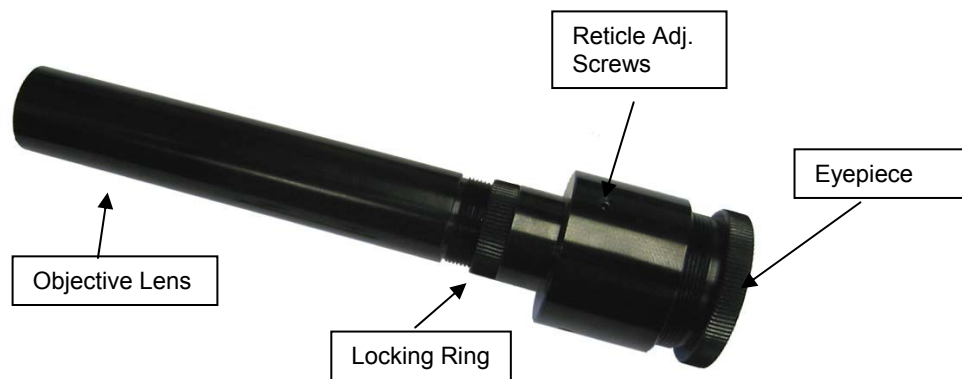

Figure 18. Polar Scope
4. Adjust polar scope eyepiece shown in **Figure 18** to bring the Polar Scope Dial in focus.